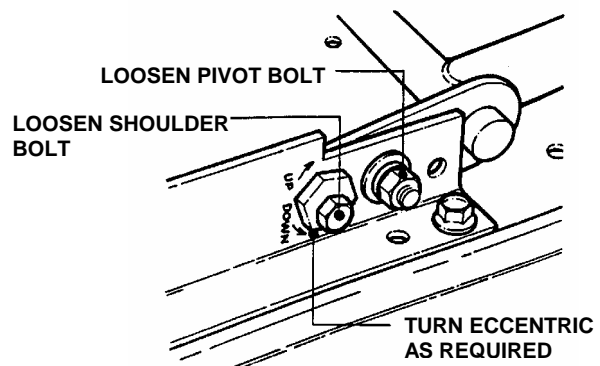

FIGURE 4.9
- a. Loosen front lift arm pivot bolt on front of right side rail. See Figure 4.9.
- c. Turn eccentric "UP" or "DOWN" as required to level deck. See Figure 4.9.